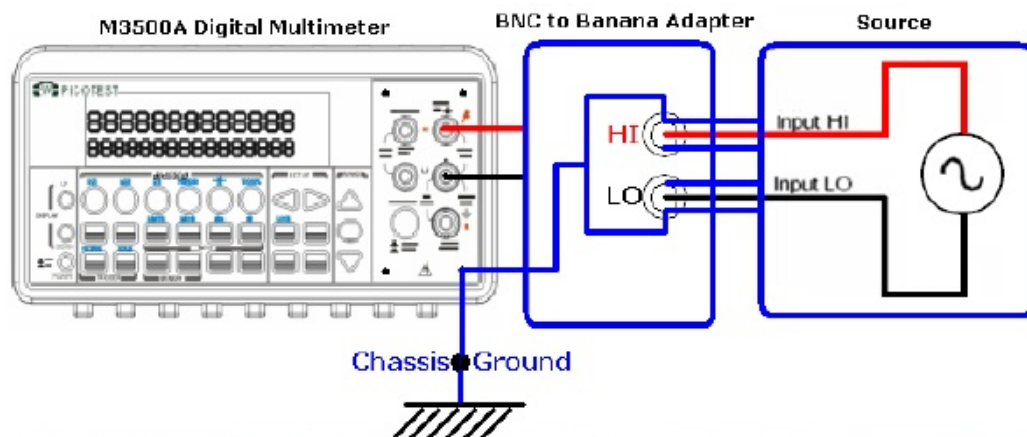

Figure 2-16
- The chassis ground terminal is used for shielding the noise from the nature, especially when you want to get a very small signal via the application of a BNC-to-Banana Adapter. Please refer to the Figure 2-16.